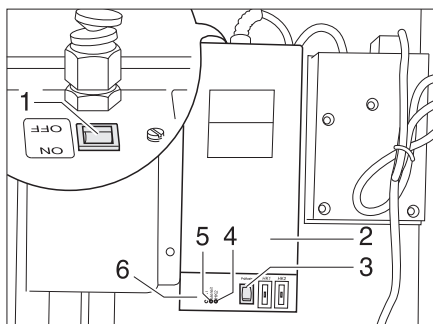

Fig. 119 Transformer with control unit
The 240 VAC/12 VDC transformer (Bild 119,2) is installed in the wardrobe or in the storage area beneath the seating group, depending on the model.
- The indicator lamp (Bild 119,5) lights up in green: Regulation in operation
- The indicator lamps (Bild 119,4 and 6) light up in red: Waste water pipes are warmed
A test button (Bild 119,3) is integrated in the housing with which the control unit can be operated for a short time. By pressing the test button, the function of the warming unit can be tested, even if the ambient temperature is above 5 °C.
- Turn the switch (Bild 119,1) on the transformer (Bild 119,2) to "ON".
- Turn the switch (Bild 119,1) on the transformer (Bild 119,2) to "OFF".